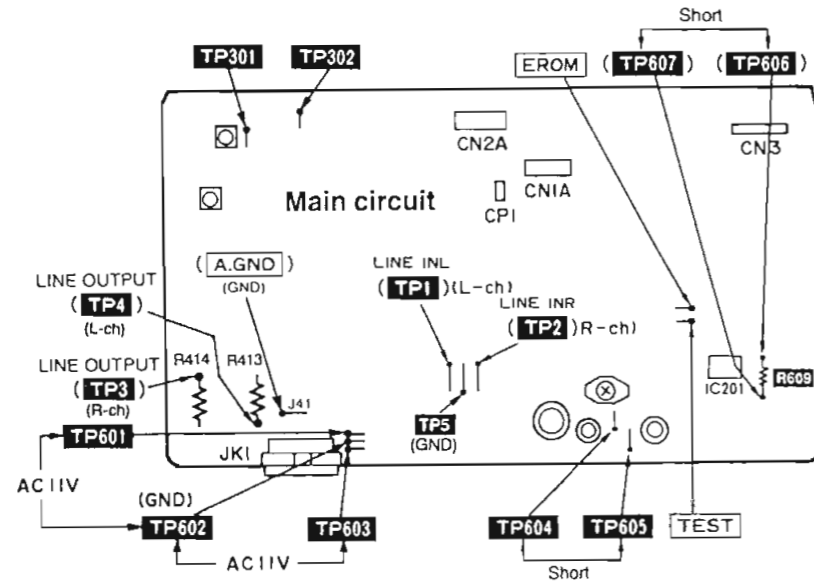
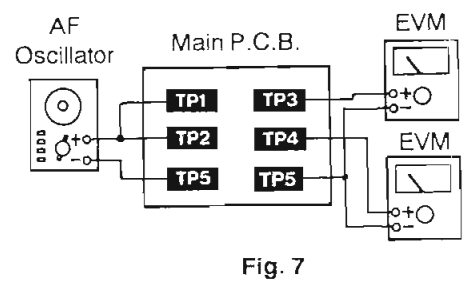
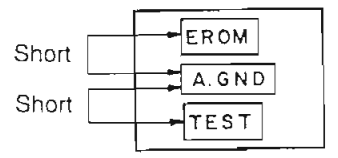

Fig. 1
Fig. 7
Fig. 8
- Short test points between **TP604** and **TP605**, and **TP606** and **TP607** at the resistor **R609** as shown in Fig. 1.
- Connect an AF oscillator between **TP1** (LINE IN, left channel) and **TP5**, and between **TP2** (LINE IN, right channel) and **TP5**. (Refer to Fig. 1 and Fig. 7.)
- Connect an EVM (AC range) between **TP3** (LINE OUT, left channel) and **TP5**, and between **TP4** (LINE OUT, right channel) and **TP5**. (Refer to Fig. 1 and Fig. 7.)
- Connect **EROM** and **TEST** to the **A. GND**. (Refer to Fig. 1 and Fig. 8.)